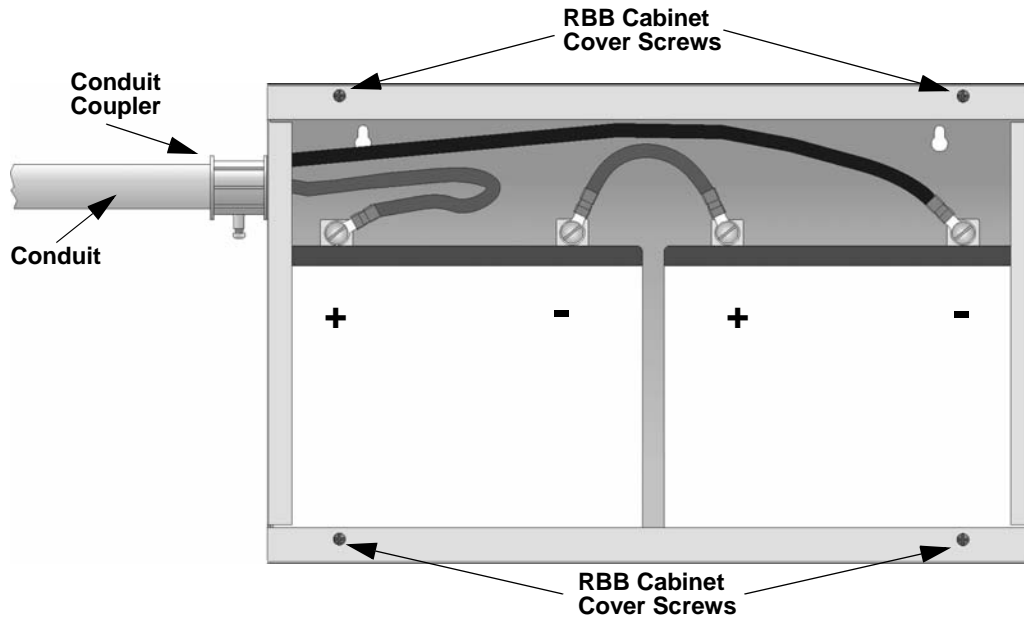

Figure 4-5 Battery Connections in the RBB Cabinet
- Run extended battery cable from control panel cabinet through conduit to RBB cabinet. See Figure 4-5.
Note: Figure 4-5 is an example of how the wire connections can be routed. However, any other cabinet knock-outs (on either the main control panel or the RBB cabinet), that are not previously being used may be utilized to connect conduit between the two cabinets.
- Connect battery leads to the backup battery terminals. See Figure 4-5.
- Insert the RBB cover screws into the cover mounting holes (see Figure 4-5).